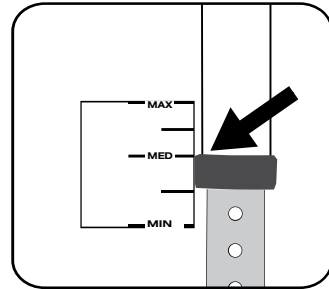

Figure 2: Downhaul until the calibration mark lines up with the bottom of the mast.
b) Downhaul your sail until the calibration mark lines up with the bottom of the mast (figure 2).